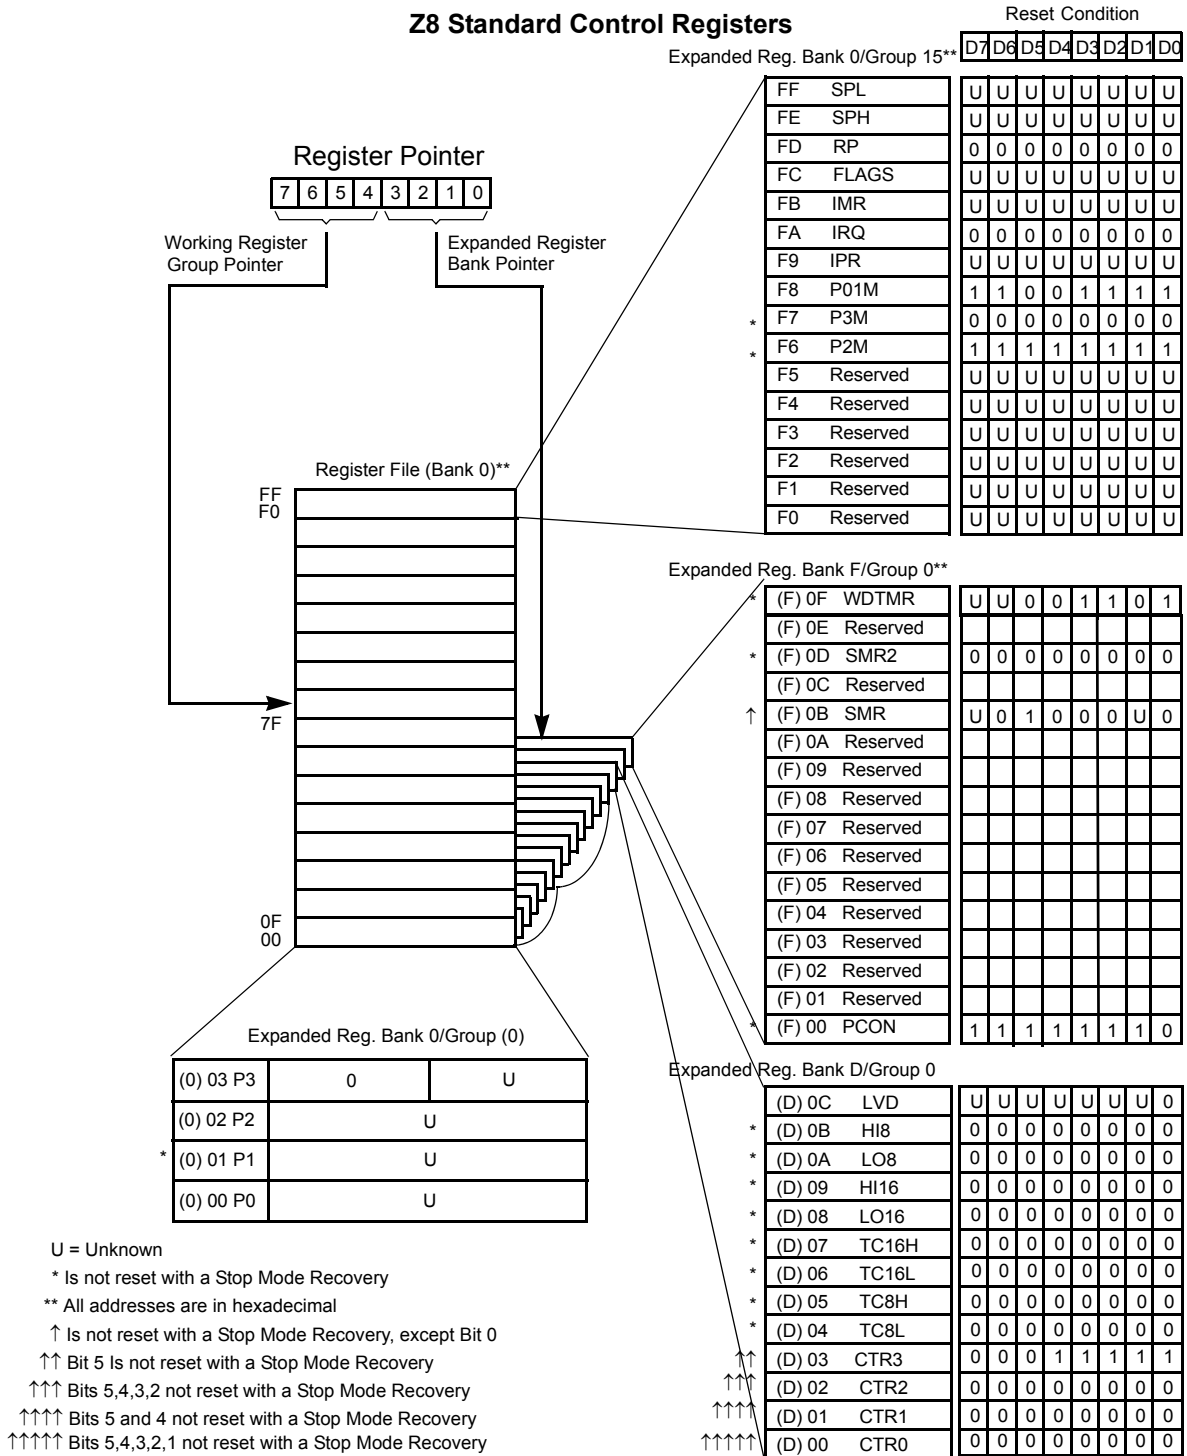

Figure 13. Expanded Register File Architecture
- **Note:** *An expanded register bank is also referred to as an expanded register group (see Figure 13).*
Example: Z8 GP (see Figure 13 on page 21)